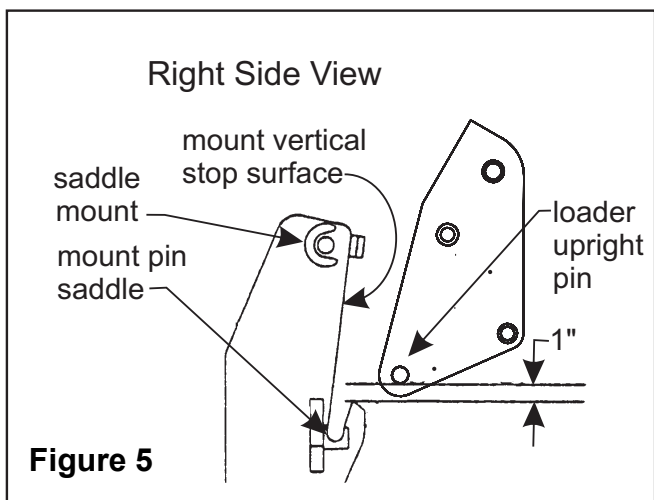

Figure 5
10. With overhead hoist, position loader upright pin to clear mount pin saddle by 1" (see figure 5). Move tractor forward until both loader upright pins come to rest against the flat vertical stop surface of both mounts. Lower loader with overhead hoist until both loader upright pins rest into mount pin saddles.